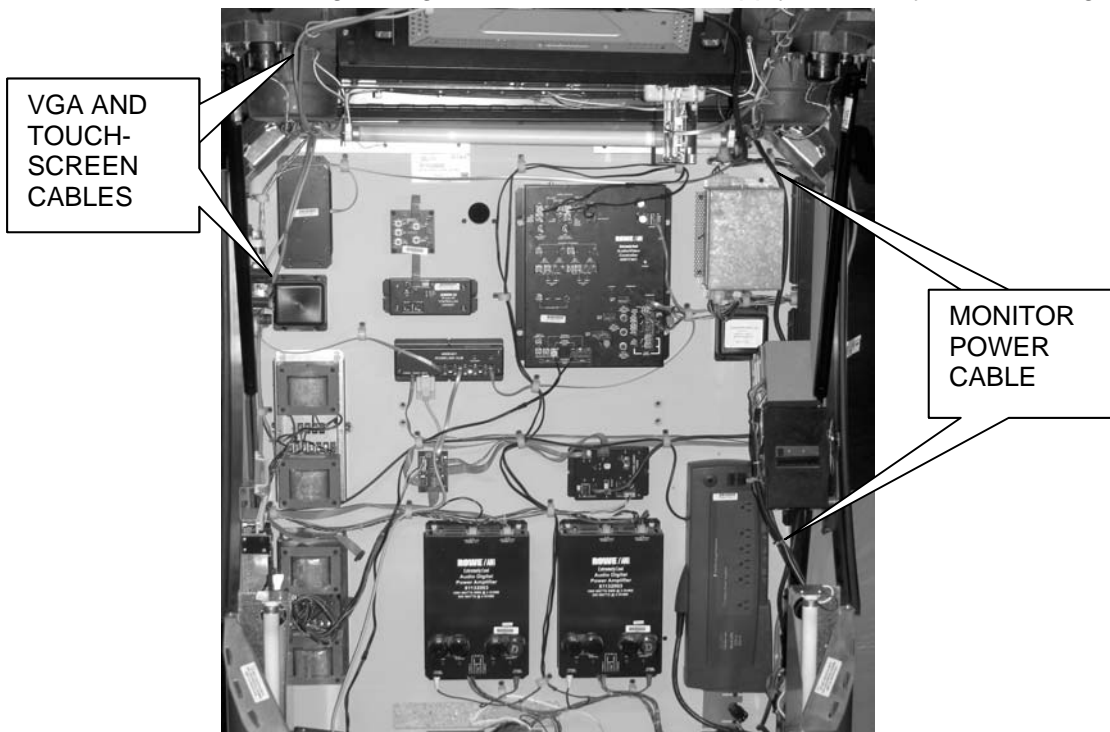

Figure 22 - Routing Cables to Computer/Electronics Assembly
10. Continue routing the VGA and Touch-screen cables through the existing cable clamps on the back wall of the cabinet along the left side and to the front of the Computer/Electronics Assembly. Refer to *Figure 22*.
11. Route the Monitor power cable through the existing cable clamps on the back wall of the cabinet along the right side to the Power Supply Assembly. Refer to *Figure 22*.